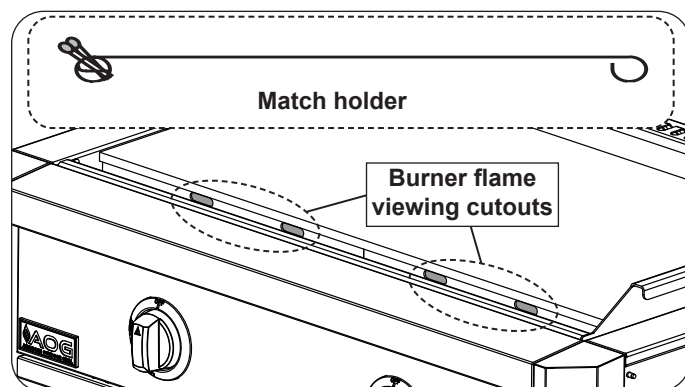

Fig. 35-2 Burner flame viewing cutouts
Important: Inspect the burner flames by looking through the burner flame viewing cutouts located above the drip collector trough. Adjust viewing position if needed to ensure flame presence. (Fig. 35-2).
2. Insert either a burning long-stem match, or a burning match held by a wire extension holder into the burner flame viewing cutouts **for 5 seconds**. (Fig. 35-2).